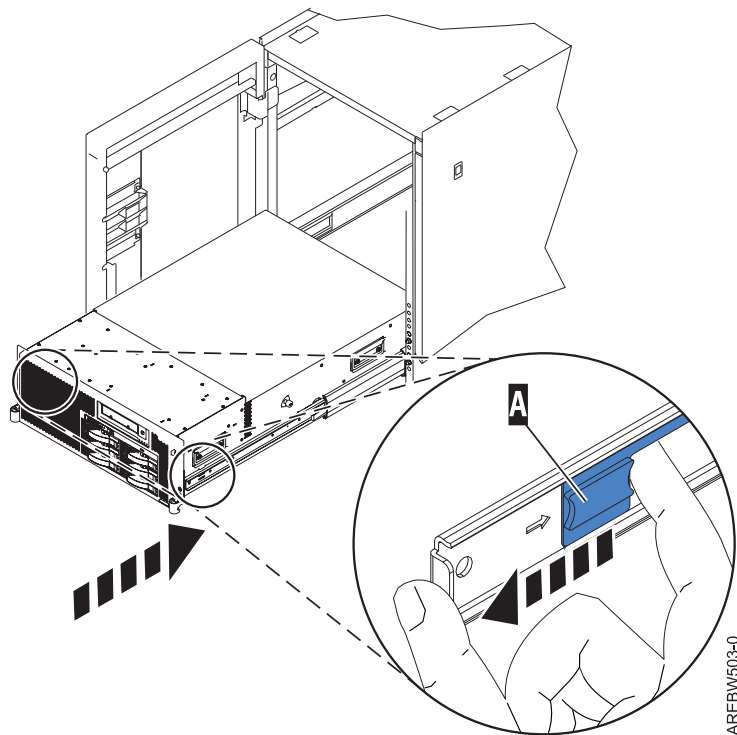

Figure 40. Inner rail extended
11. Simultaneously press the safety latches and push the system unit into the rack until it locks as shown in Figure 40.